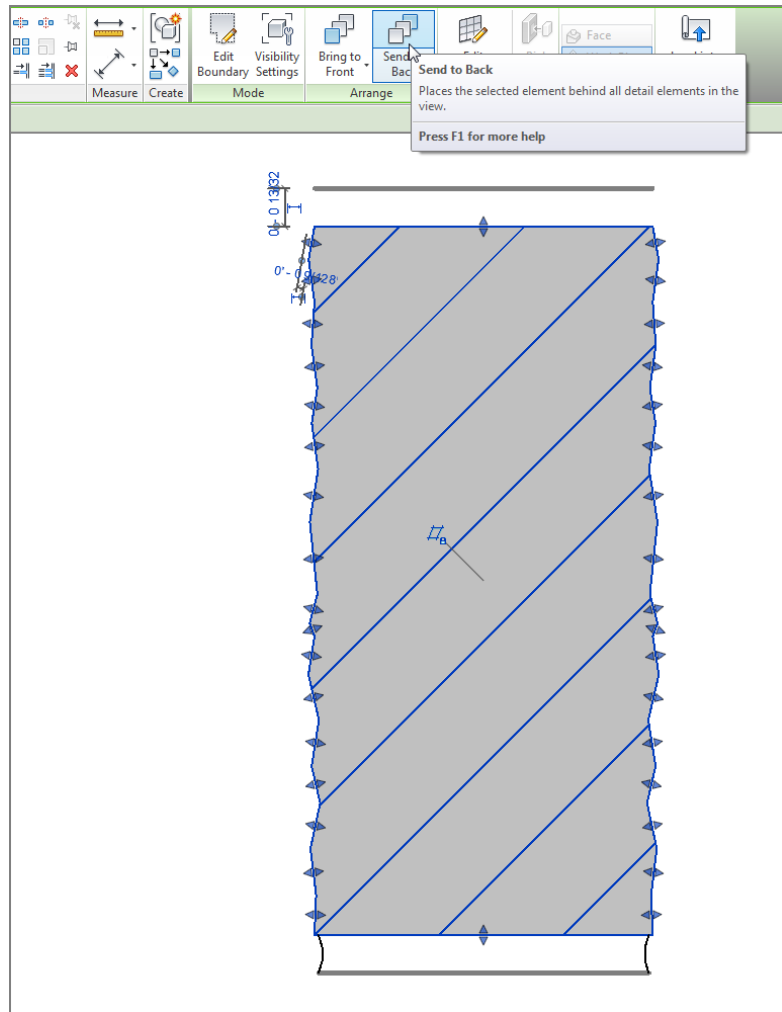

FIGURE 12.29: Sending the light shade to the back
16. On the Arrange panel, click the Send To Back button, as shown in Figure 12.29.